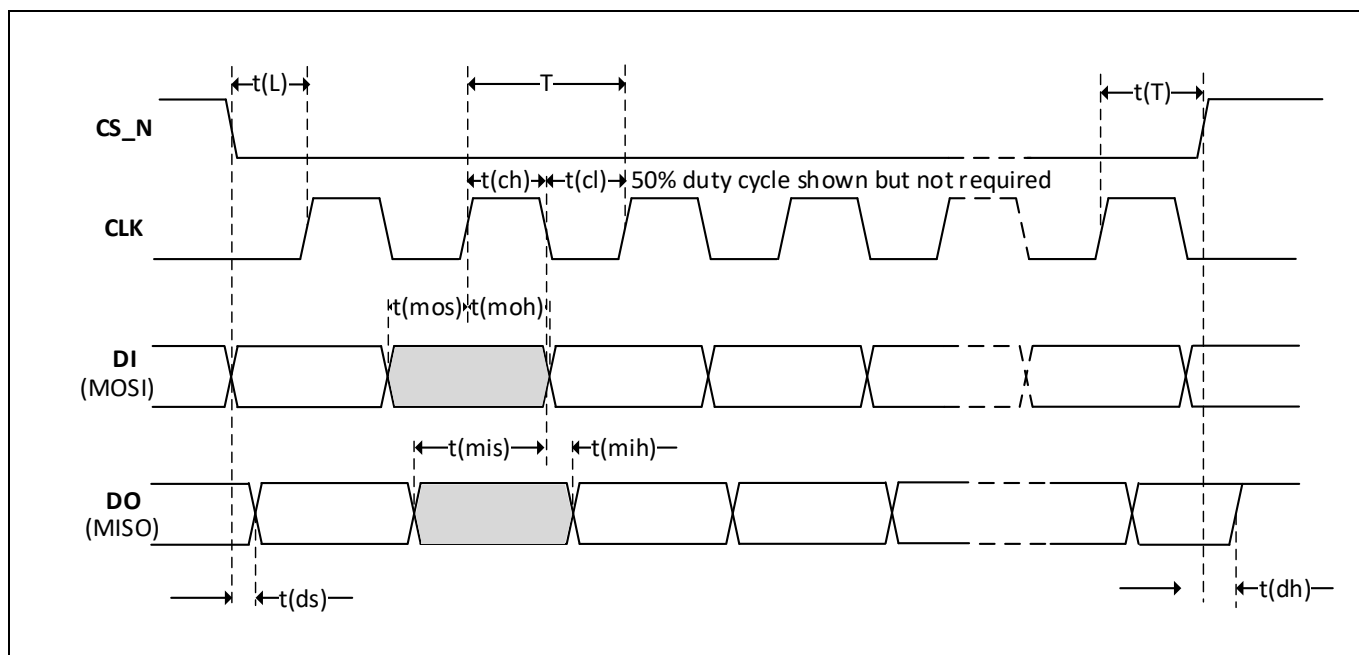

Figure 44 SPI interface timing diagram for SFCTL:MISO_HS_RD = 0_b
The timing diagram for normal SPI mode (SFCTL:MISO_HS_RD =0) is presented in Figure 44. A SPI transfer is started with a falling edge of chip select signal CS_N generated by the SPI master. At the same time, the SPI master shall drive the level of the data input signal DI (master output, slave input) according to the first bit. Also, with the falling edge of the chip select signal CS_N the SPI slave applies the level of the data output signal DO (master input, slave output) according to the first bit which shall be transferred to the SPI master, the level becomes stable after the period t(dS). The SPI master has to wait for the time t(L) before the clock signal CLK can be generated.